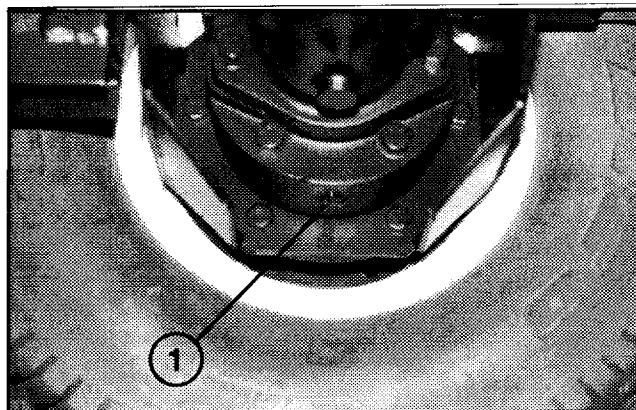

Figure 39
3. Remove drain plug from bottom of hub on other side of wheel and allow oil to drain into pan. (Fig. 39)